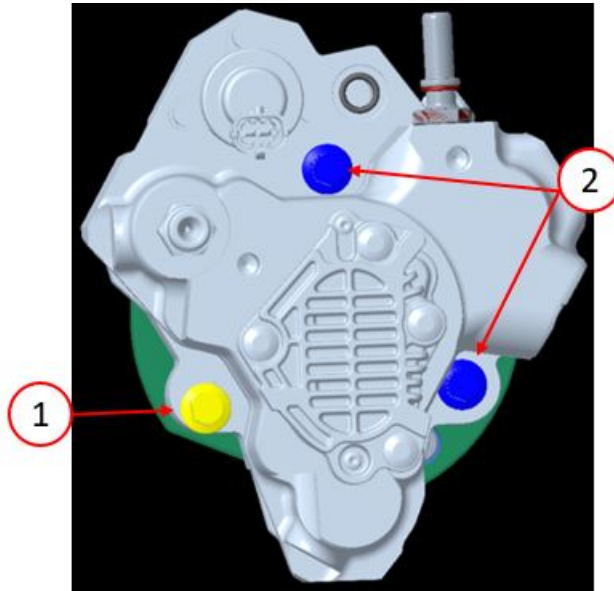

Fig. 9
22. Install the long 60 mm cap screw **** (Mopar PN 4429446 /Supplier PN 3901446). ** (Fig. 9)** first loosely (yellow bolt in picture below).
23. Then install the two shorter 40 mm cap screws **** (Mopar PN 4638665 /Supplier PN 3900678). ** (Fig. 9)** (blue bolt in picture below).